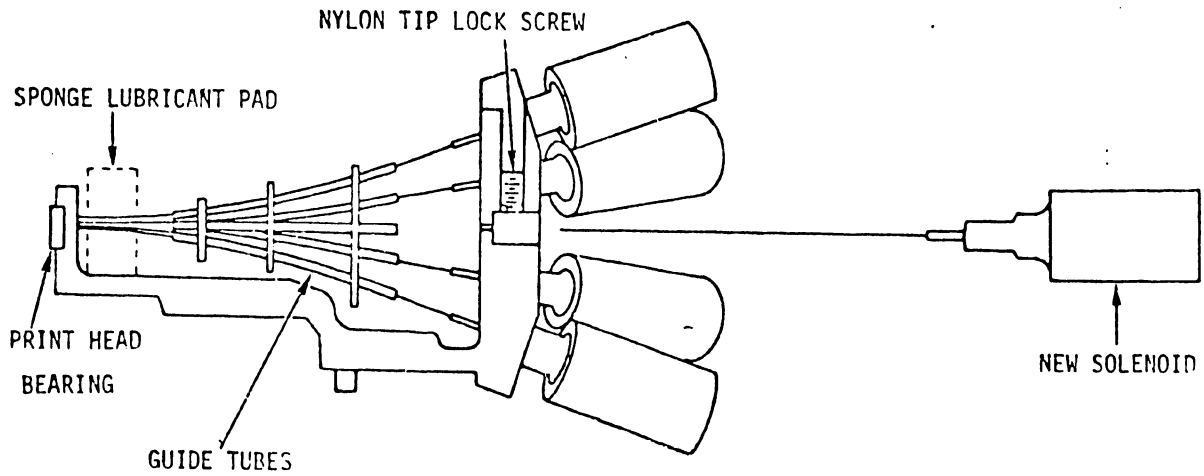

FIGURE 5-10 REMOVAL & REPLACEMENT OF SOLENOIDS
- 3) Turn the solenoid to be adjusted in or out while watching the solenoid wire at the bearing (Figure 5-10).
- 4) Loosen desired lock set-screw and unscrew solenoid from head casting (Figure 5-10).